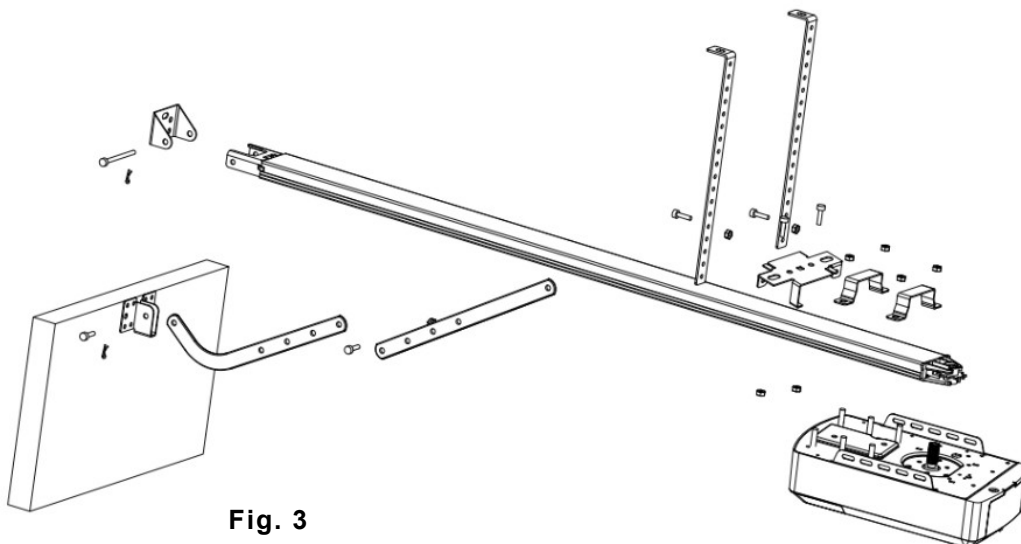

Fig. 3
STEP 1 (Fig.3)
STEP 2 (Fig. 3)
STEP 3 (Fig. 3, Fig.4)
STEP 4 (Fig. 3, Fig.5)